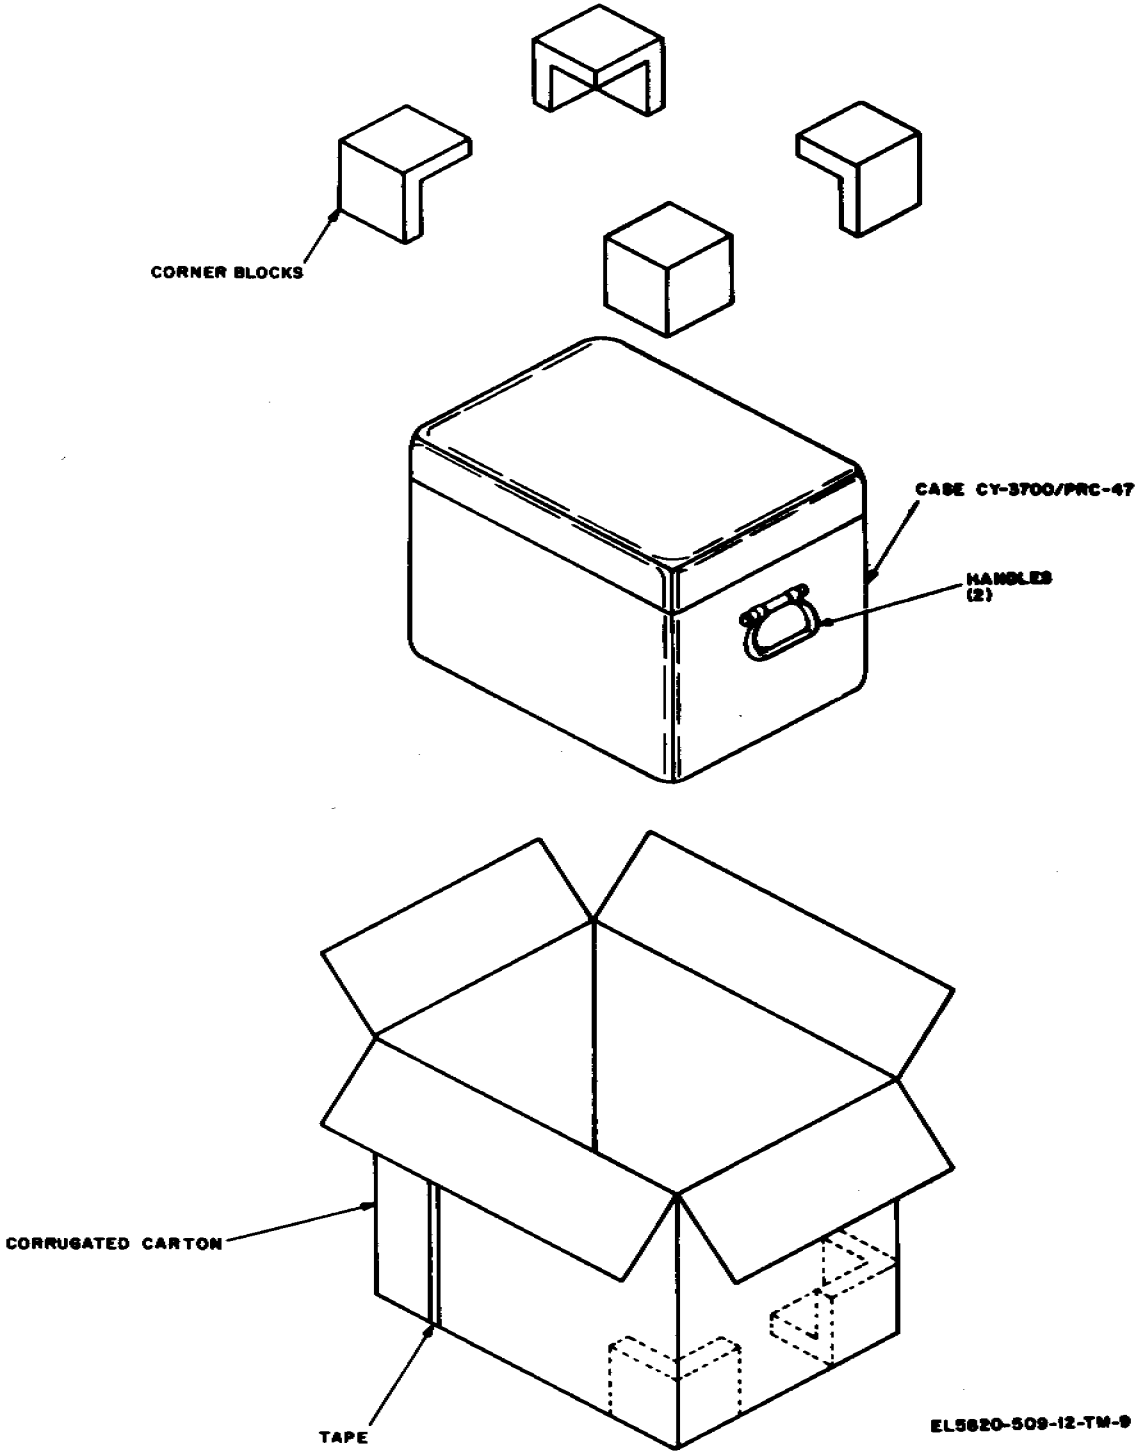

Figure 2-1. Packaging details, Radio Set Case CY-3700/PRC-47 (less electrolyte).
Radio Set AN/PRC-47 is packaged for shipment in two containers. The radio set carton (minus the electrolyte) is shown in figure 2-1. The electrolyte is packaged separately in a smaller carton and is referenced in TM 11-6140-208-15.
*a.* Unpacking Procedures, Radio Set Carton. Unpack the carton (fig. 2-1) containing the AN/PRC-47 as follows: